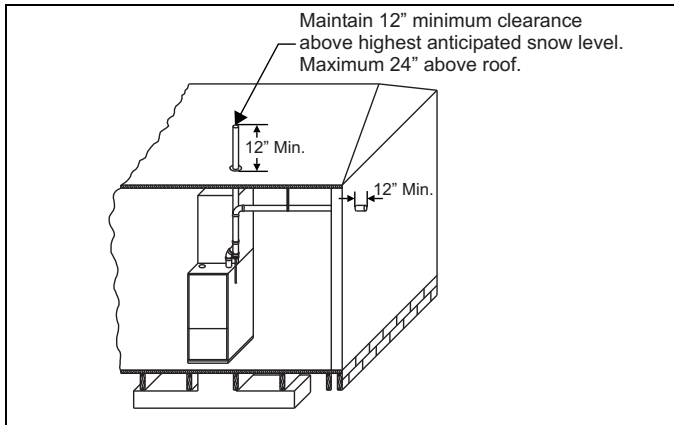
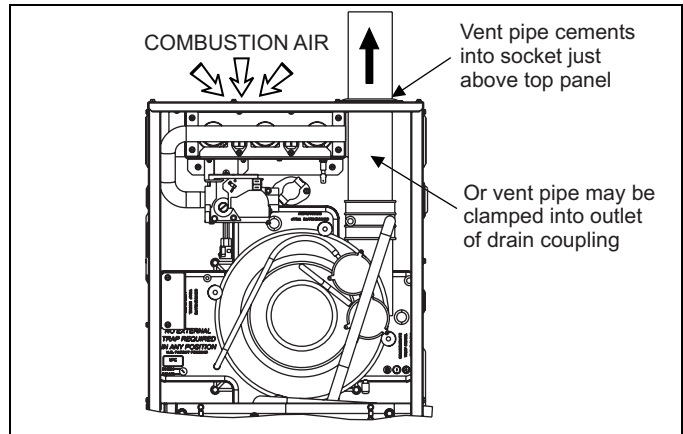

FIGURE 28: Termination Configuration - 1 Pipe
FIGURE 34: Combustion Airflow Path Through The Furnace Casing
The combustion air side of the single pipe configuration shown in Figure 28 is referred to in these instructions as ambient combustion air supply. Follow the instructions for ambient combustion air installations, paying particular attention to the section on air source from inside the building. The vent for a single pipe system must be installed as specified in the venting section of these instructions with the vent terminating as shown in Figure 28. Each furnace must have a separate vent pipe. Under NO circumstances can the two vent pipes be tied together.
2. **AMBIENT COMBUSTION AIR:** Combustion air is supplied from the area surrounding the furnace through openings in the furnace casing. The combustion air and the vent pipes are not terminated in the same atmospheric zone. Refer to Figure 28 for vent terminations. Refer to "Ambient Combustion Air Supply" for proper installation. Refer to Figure 34.